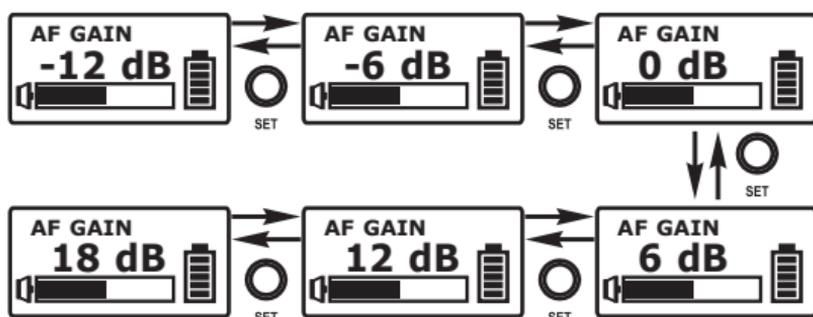

Fig. 9
5. AF GAIN: Setup of Input Sensitivity, Fig. 9.
- (A) AF Gain can be changed from -12dB ~ 18dB, in 6dB steps.
- (B) Press MODE button to access AF GAIN and the parameters start blinking and is ready to be changed.
- (C) Press SET button to change. Every push of the SET button increases the dB value by 6dB to a maximum of 18dB.
- (D) The higher the AF gain is, the lower the dynamic range for input signal will be and it will increase noise and feedback chances.
- (E) Set AF Gain to 0dB for electric guitar. The maximum input signal strength is  $2V_{rms}(6dBV)$ .